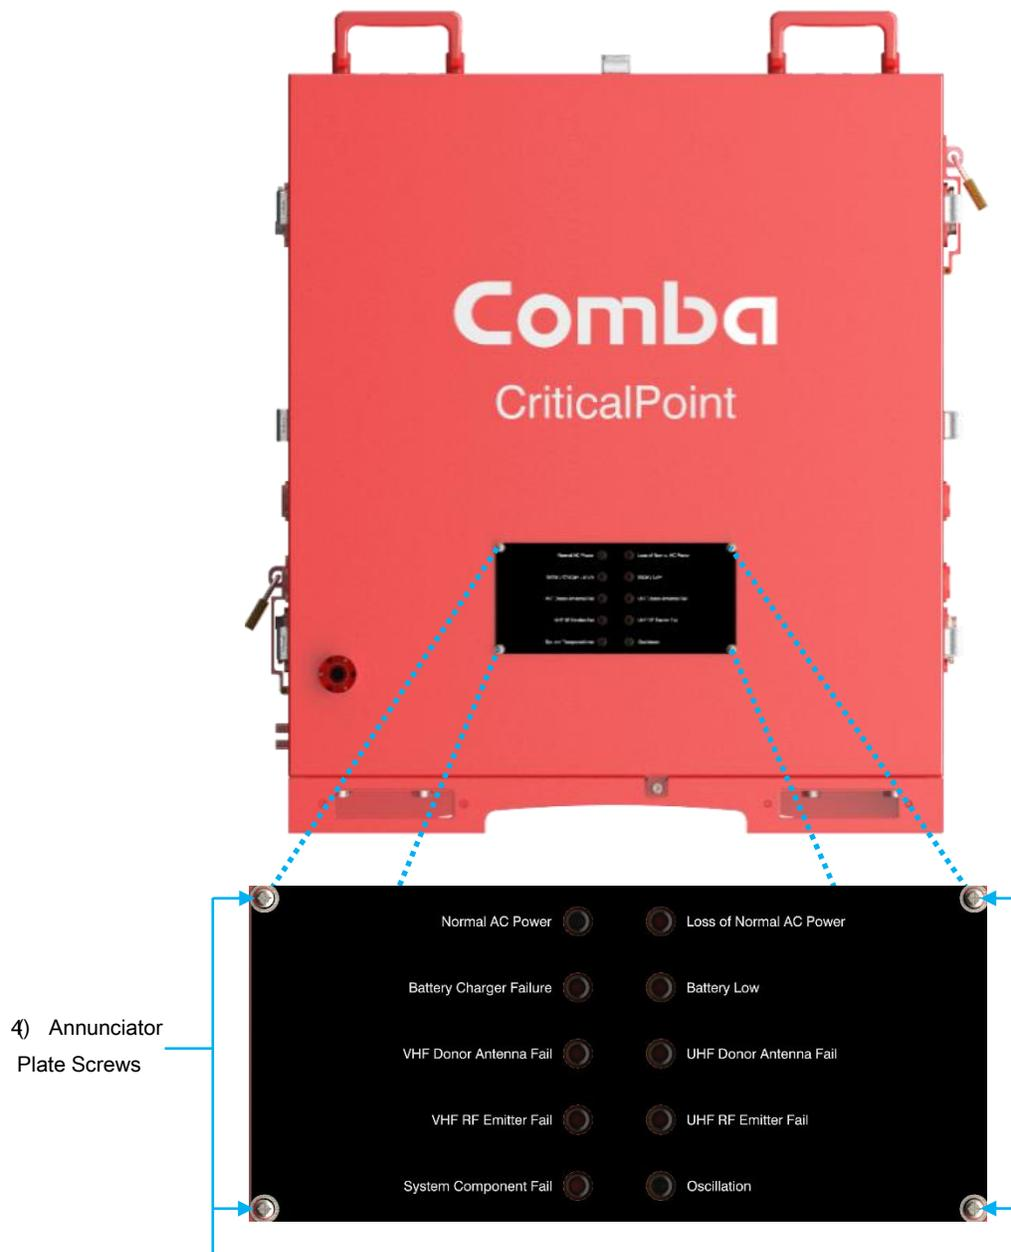

Figure 52: V3 BDA/MU/RU Annunciator Front Plate Installation
- Remove the 4 screws and washers holding the factory installed plate in place. This hardware will be reused. Do not discard! See Figure 52 for screw locations.